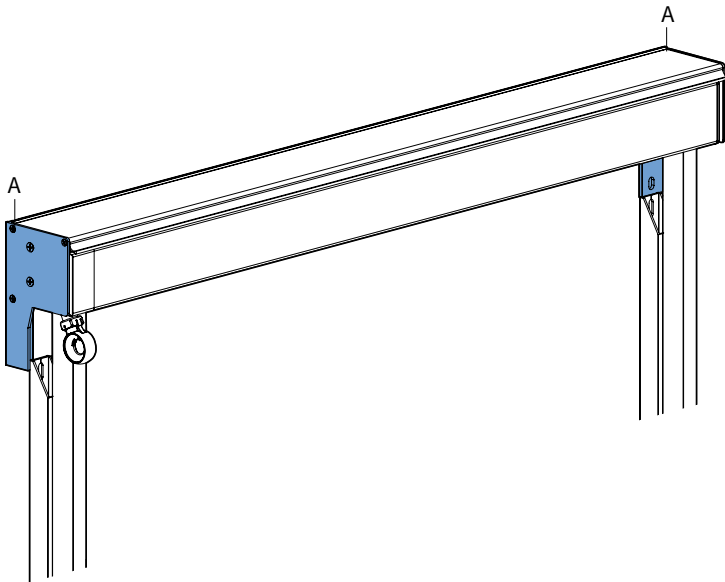

fig. 1.1 Wall supports drop-arm awning
The two wall supports (A) need to be levelled, both horizontal and vertical. See figure 1.1 and 1.2. They need to be installed to the wall in one line. If the wall supports are not levelled (unequal position of the arms as a result), the awning will not function well.